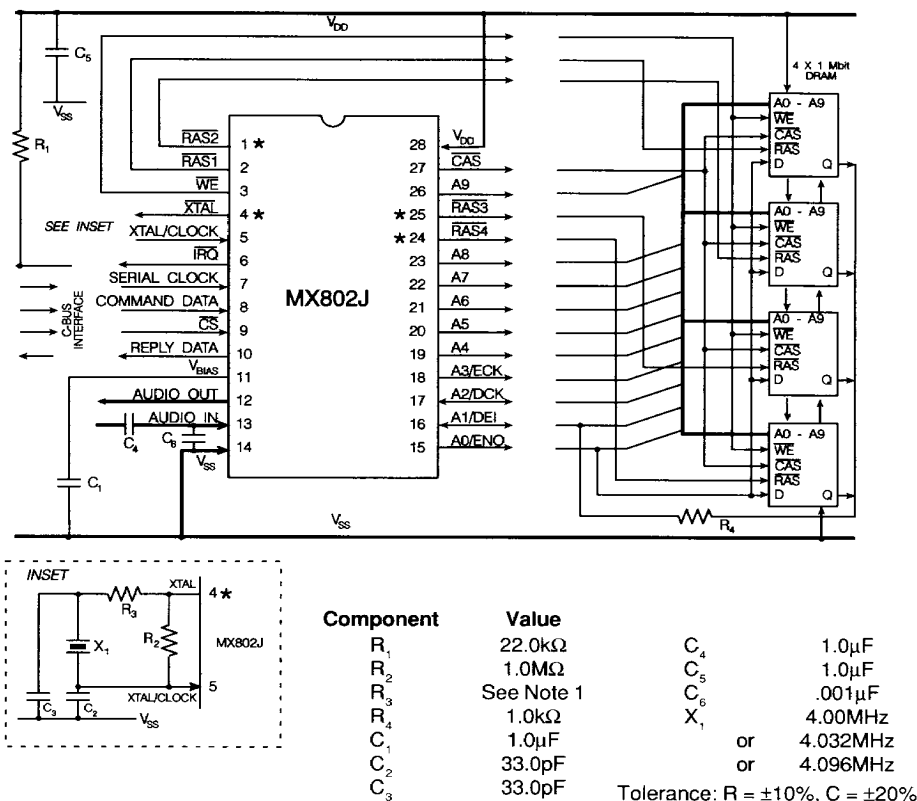

Figure 2 - Recommended External Component and DRAM Connections
3. Functions whose pins are marked with an asterisk* in Figure 2 are not available on the 24-pin/lead versions of this device. Pin numbers illustrated are for 28-pin versions.
7. Figure 2 above shows connections to 4 x 1 Mbit sections of DRAM. If desired, to simplify PCB layout, the DRAM inputs A0-A8 may be connected in any order to the MX802 DVSR Codec output pins A0-A8. Connections to 256 kbit DRAM are similar, but A9 is left unconnected.